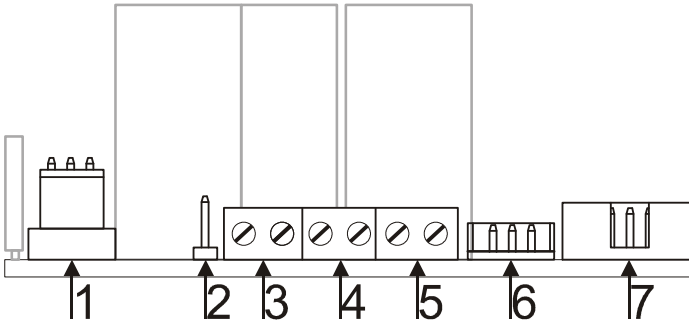

Figure 2
- Bridged setup:** Connect the module to your pc by a USB cable and select where the master module is placed, master module is left or right audio or functions as a sub woofer. When you use 2 AKB-210DSP for a stereo bridged setup you will also have to initialise the second (slave) module, see example in the last chapter of this document. In bridged mode the jumper (see Figure 2) must be placed and the speaker must be connected between J4 speaker+ and J2 speaker+. In all other setups the jumper is not placed! When you want to set the master as right channel with analogue input you will have to change the input cinches, left in the right cinch and right in the left. This is because only the right channel is linked trough, so if you want the left channel to be linked trough you just switches left and right. For digital sources the left and right channel are linked.